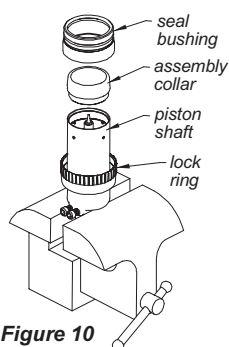

Figure 10
9. Reinstall the seal bushing on the piston shaft. Use the assembly collar (Figure 10) supplied in the seal kit to simplify this step. Place the assembly collar into the open end of the piston shaft and slide the seal bushing (larger end first) down over the collar into place on the shaft. Be careful not to cut or pinch the seals while reinstalling the seal bushing. Once the seal bushing is in place remove the assembly collar.